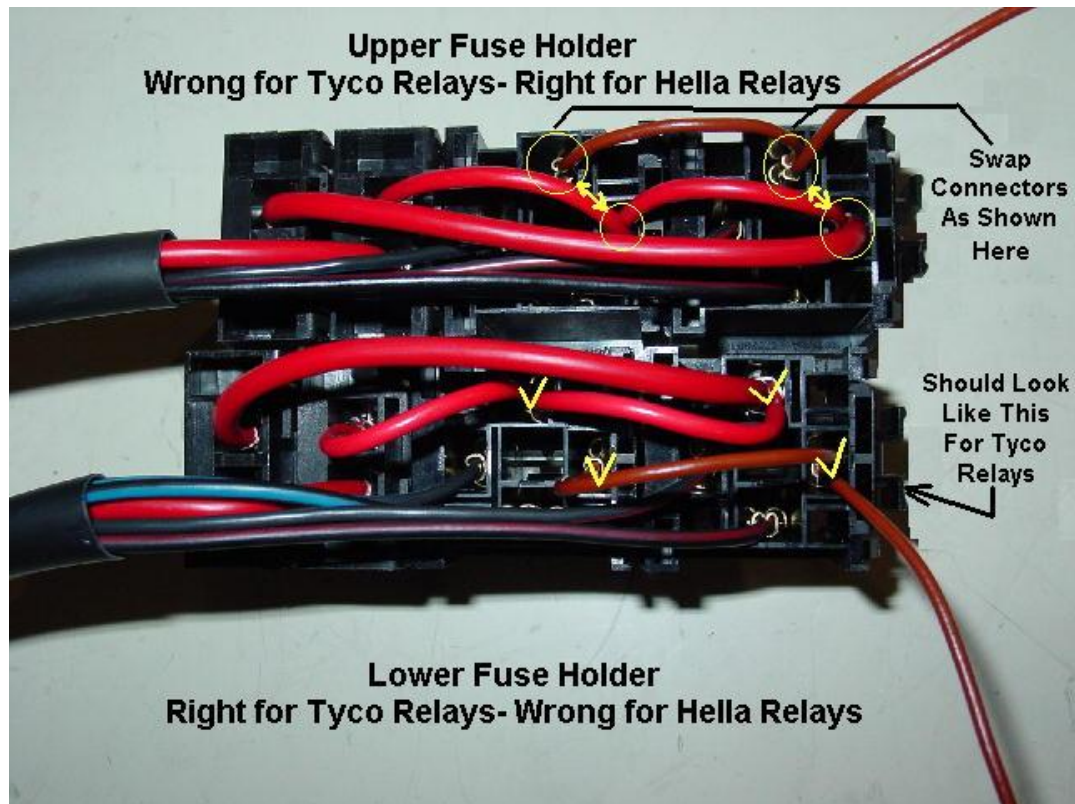

Fig. 4a Bottom View Relay Holder
4. Swap the connectors around from 2 to 4 in each relay holder. See figure 4a for details of the bottom of the relay holders. You may need to bend the clip back out so the connector will hold.